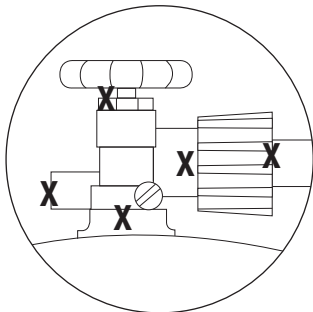

Figure 3
- 1. Make sure the control knob is in the “OFF” position (Figure 3).
- 2. Make sure control knobs are in the “OFF” position (Figure 3).
- Make sure the control knobs are in the “ OFF” position (Figure 3).